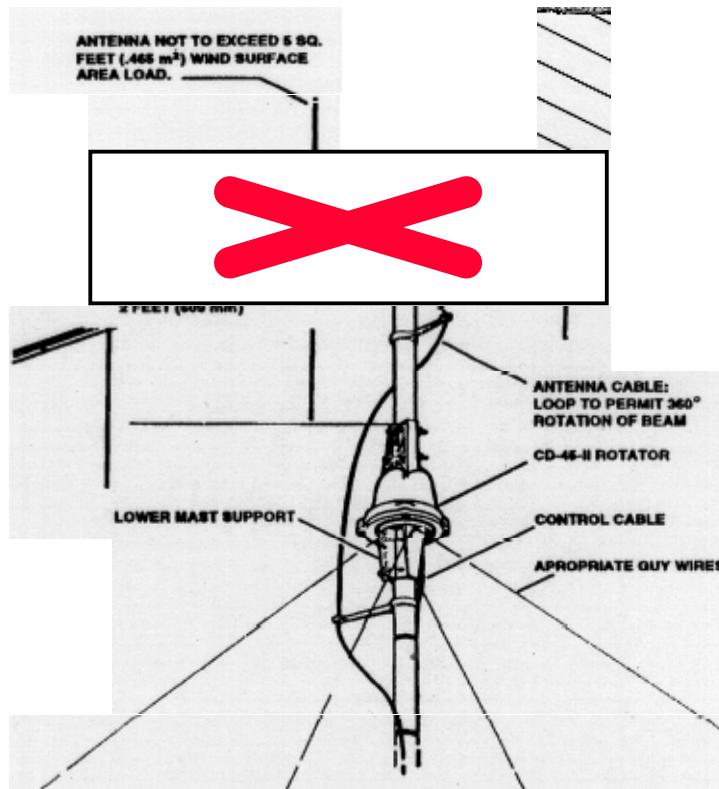

Figure 6 Mast Mounted Rotator
3. A telescoping or other type mast, as shown in Figure 6, can also be used. The lower mast support is required for this installation.
4. Connect the antenna cable to the antenna (follow manufacturer's recommendation). Make sure you have enough slack for the 360° rotation. (The antenna rotates "S" to "E" [counterclockwise] during its first turn, therefore, slack should wrap counterclockwise around the mast.) See Figure 6.